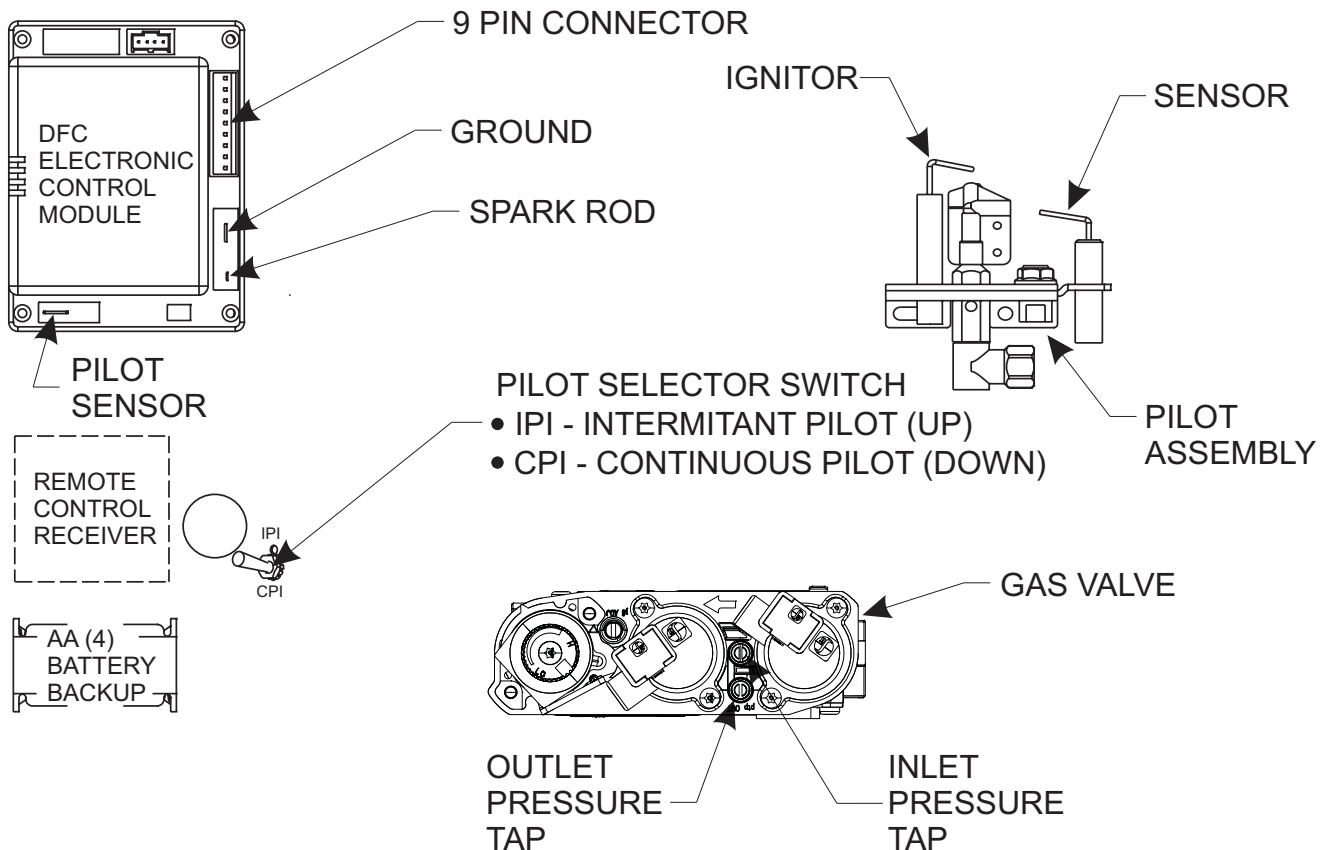

Figure 23
**NOTE:** A small toggle switch is located on a bracket that is used to switch from IPI (upward position) to the CPI (downward position). See **Figure 23**.
3. The gas valve has inlet and outlet pressure taps as shown in **Figure 23**. Refer to pages 10 and 11 for gas pressure requirements.
**NOTE:** The gas control has a manual HI/LO flame adjustment knob (regulator) that allows you to increase or decrease the height of the burner flame. See **Figure 23**. Rotate the HI/LO knob counterclockwise to "HI" to increase the flame height, and clockwise to "LO" to decrease the flame height.